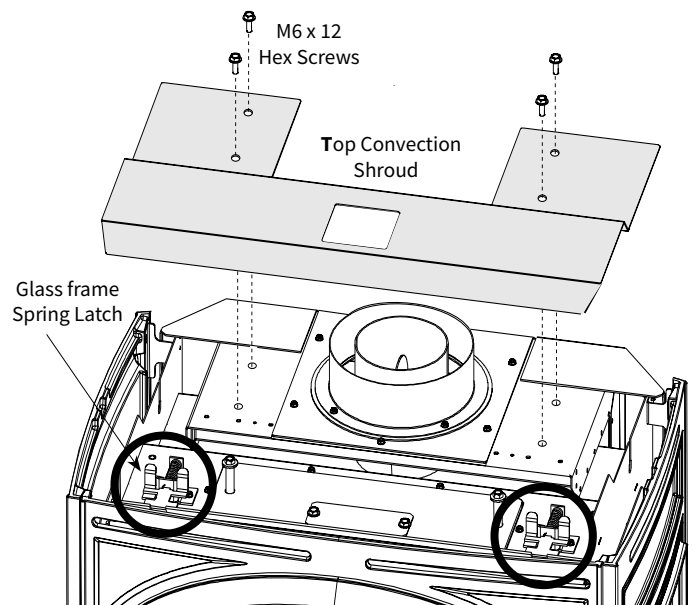

Figure 2.2. Remove the Top Convection Shroud and disengage the glass frame latches.
- Remove four hex head screws using a 10 mm wrench and disengage the Top Convection Shroud from the top of the firebox. See fig. 2.2.
- Remove the Glass Frame by** disengaging the two spring latches located on top of the firebox as in fig. 2.2. Pull each handle forward to clear the latch from the notch in the frame and lift the frame straight up out of the stove.